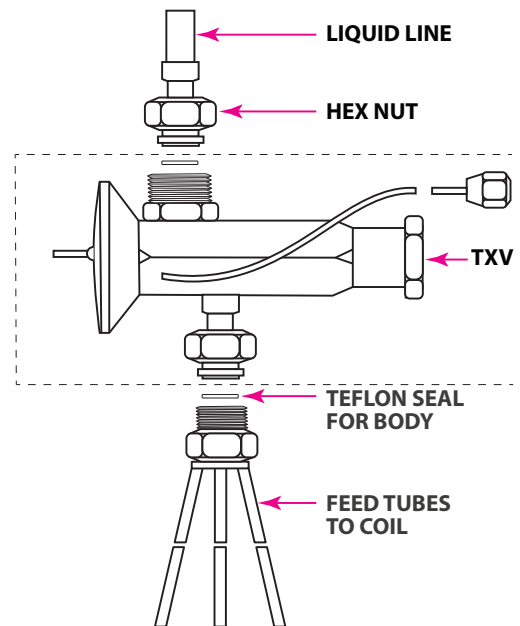

Figure 10: Typical TXV Connections
5. As shown in Figure 10, the TXV assembly must be installed between the distributor and the liquid line connector.